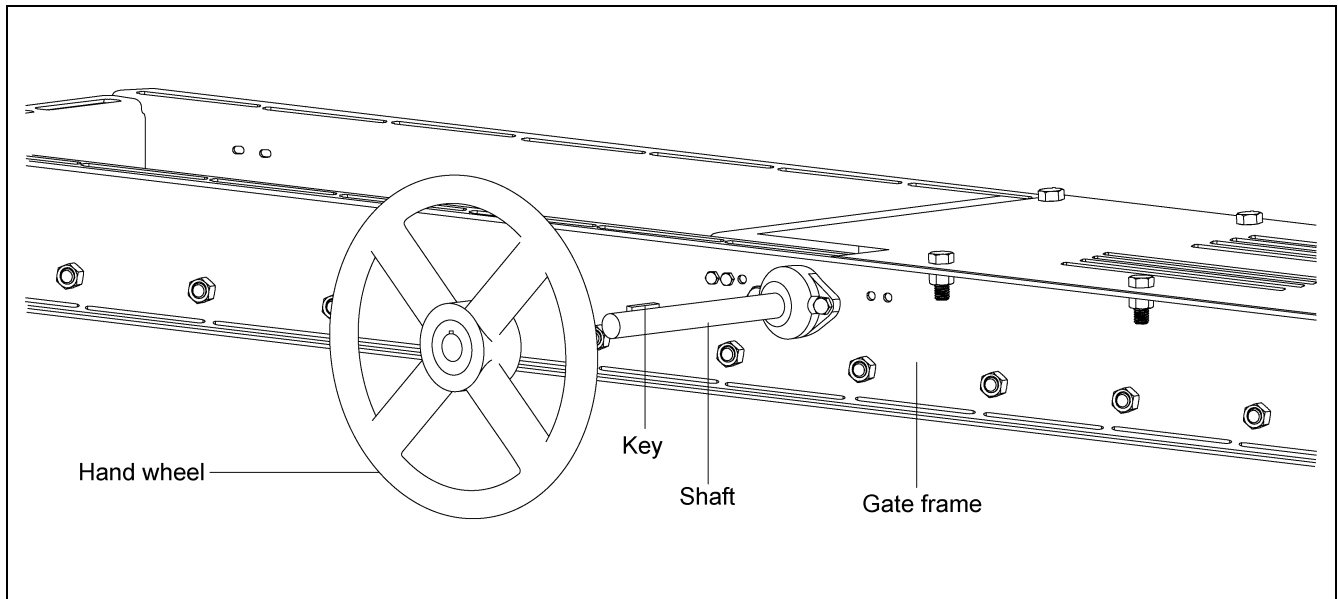

Figure 3C
1. Install the specified wheel to the shaft by aligning the key and key way, then tighten the set screw. This gate can be operated by a chain, cable or hand wheel. (See Figure 3C.)